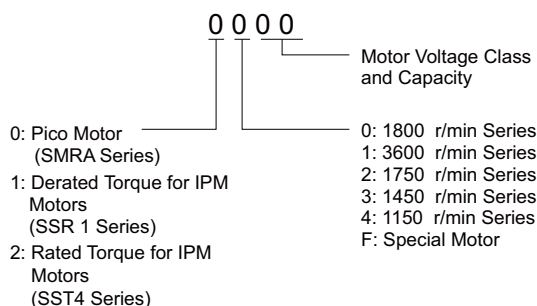

Figure 5.54 PM Motor Code
*Figure 5.54* explains the motor code setting.